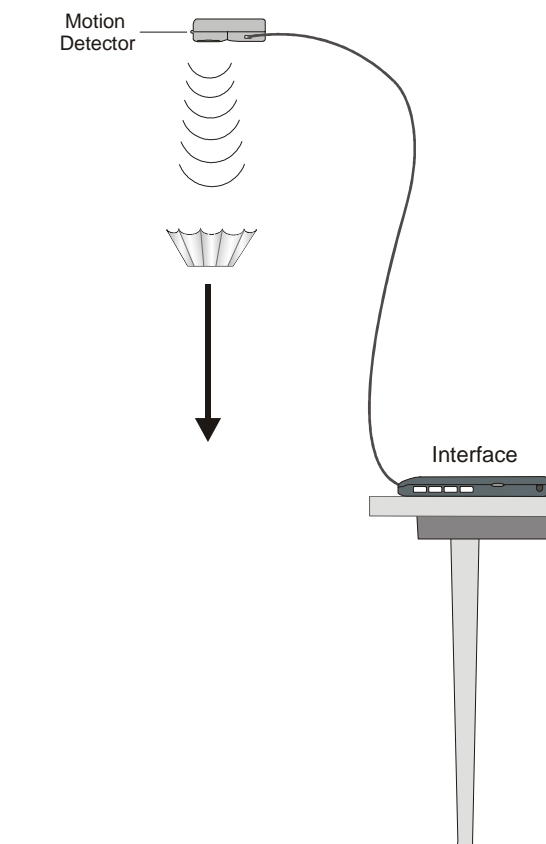

Figure 1
2. Support the Motion Detector about 2 m above the floor, pointing down, as shown in Figure 1.